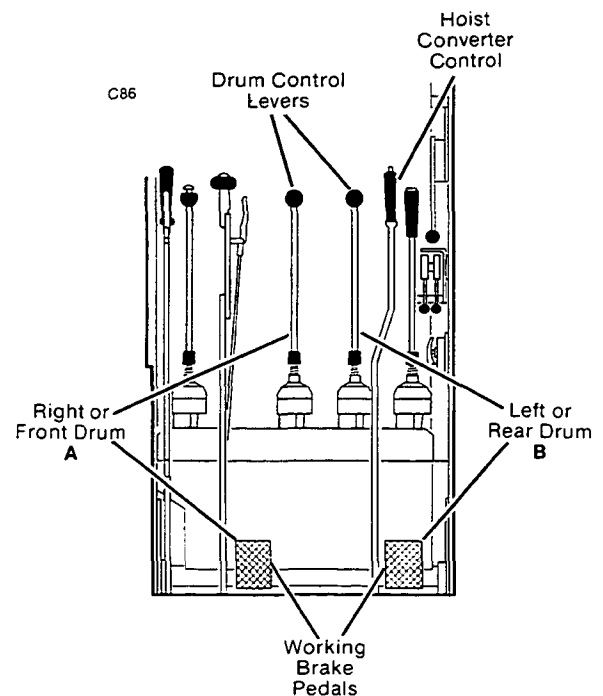

Figure 11 Drum Controls
HOIST CONVERTER SELECTOR IN AIR POSITION (see Figure 11)
HOIST CONVERTER SELECTOR IN MANUAL POSITION (Figure 11)
Dragline (Figure 11)
9. With the bucket in the digging area, pull lever (A, Figure 11) back and release both brakes (A and B) to drag the bucket in.